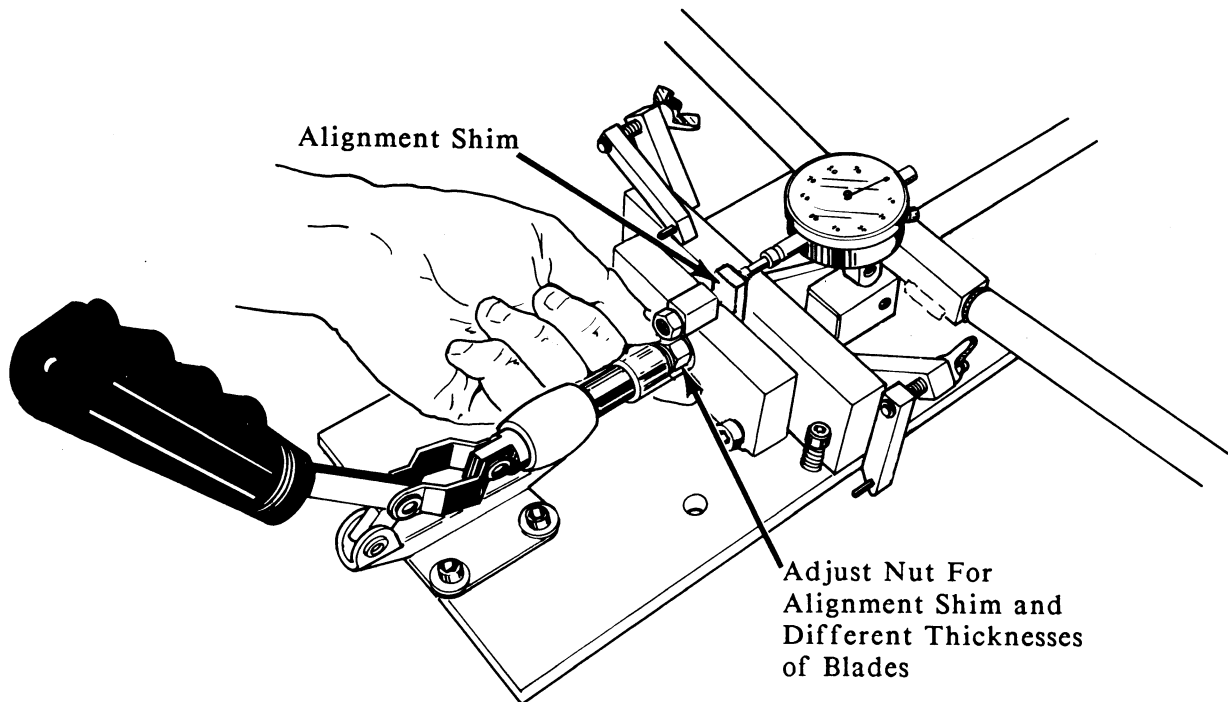

FIGURE 5
1. Turn the plastic housing to adjust the clamp nut (See Figure 5) so the alignment shim can be clamped firmly in the middle of the clamping fixture, directly in front of the gauge foot (be sure the setting point is adjusted back as not to contact the shim). The clamping fixture is opened and closed by throwing the clamp handle forward and back. The clamp nut allows you to open the space between the clamping plates for different thicknesses of blades. It should be adjusted so that a light push on the handle locks the blade (or alignment shim) tight.